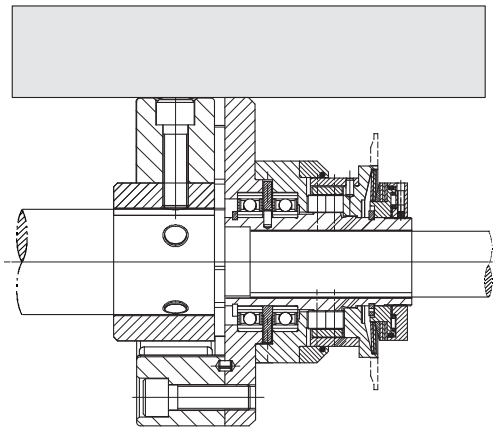

Fig. 9
After clutch installation, it must be aligned carefully, unless the coupled aggregates align well already having been flanged together. The higher the speed, the more careful the clutch should be aligned to make sure that it has a long service lifetime. On this design, alignment can be checked easily by means of a ruler (Fig. 9). In the process, the outer diameter of the elastomer ring (10) on the sides where the radial screws are located must be aligned with the intermediate flange (9) and on various planes.